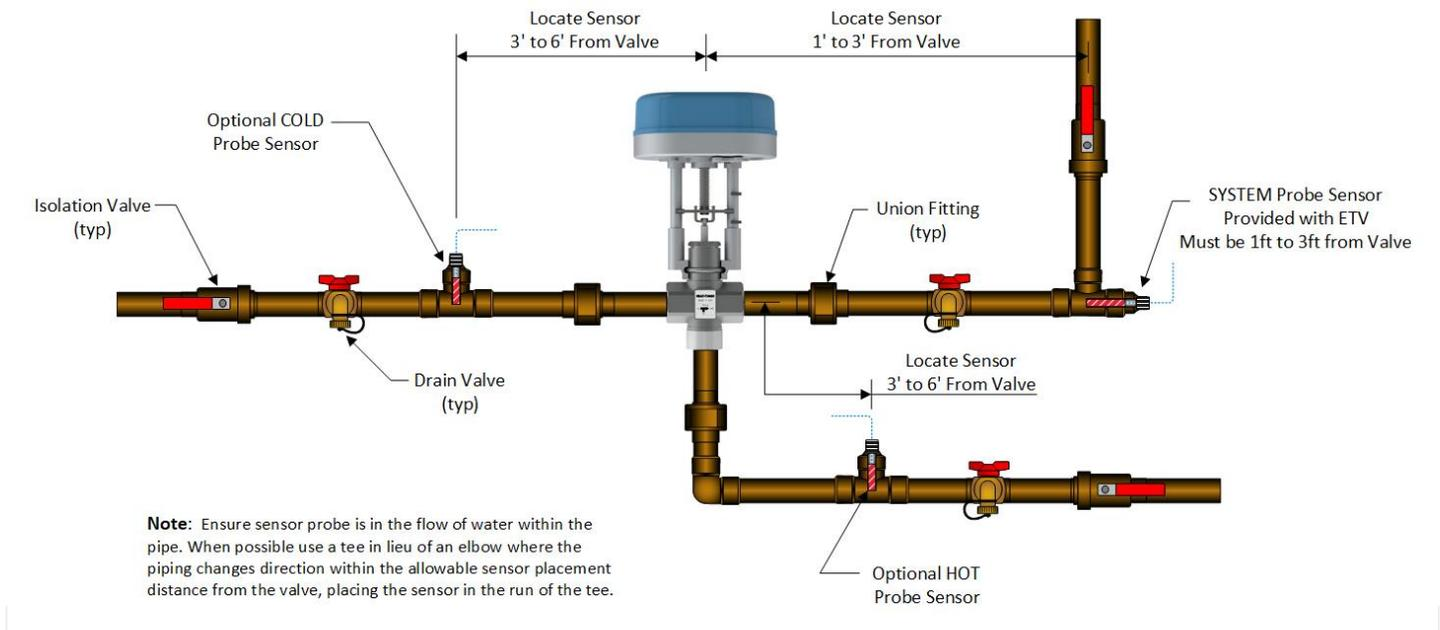

FIGURE 2
- 3 Use isolation valves (as shown in Figure 2) to isolate system components.
- 4 Use unions (as shown in Figure 2) to allow for servicing and, if required, removal of the ETV valve and sensors.
- 5 Include drain valves (as shown in Figure 2) to assist in servicing of the ETV valve and sensors.
Sensor probes must be installed within the flow of water in the pipe (see Figure 2). When possible, use a tee fitting rather than an elbow fitting where the piping changes direction within the allowable sensor placement distance from the valve. The sensor probe is then placed in the run of the tee fitting as shown as the System Sensor Probe in Figure 2.
When installing the probe sensor in a tee fitting, perpendicular to a run of piping, the tip of the probe sensor should be positioned at the centerline of the piping (see optional HOT or COLD probe sensor in Figure 2). This may require a nipple and coupling in addition to the tee fitting.